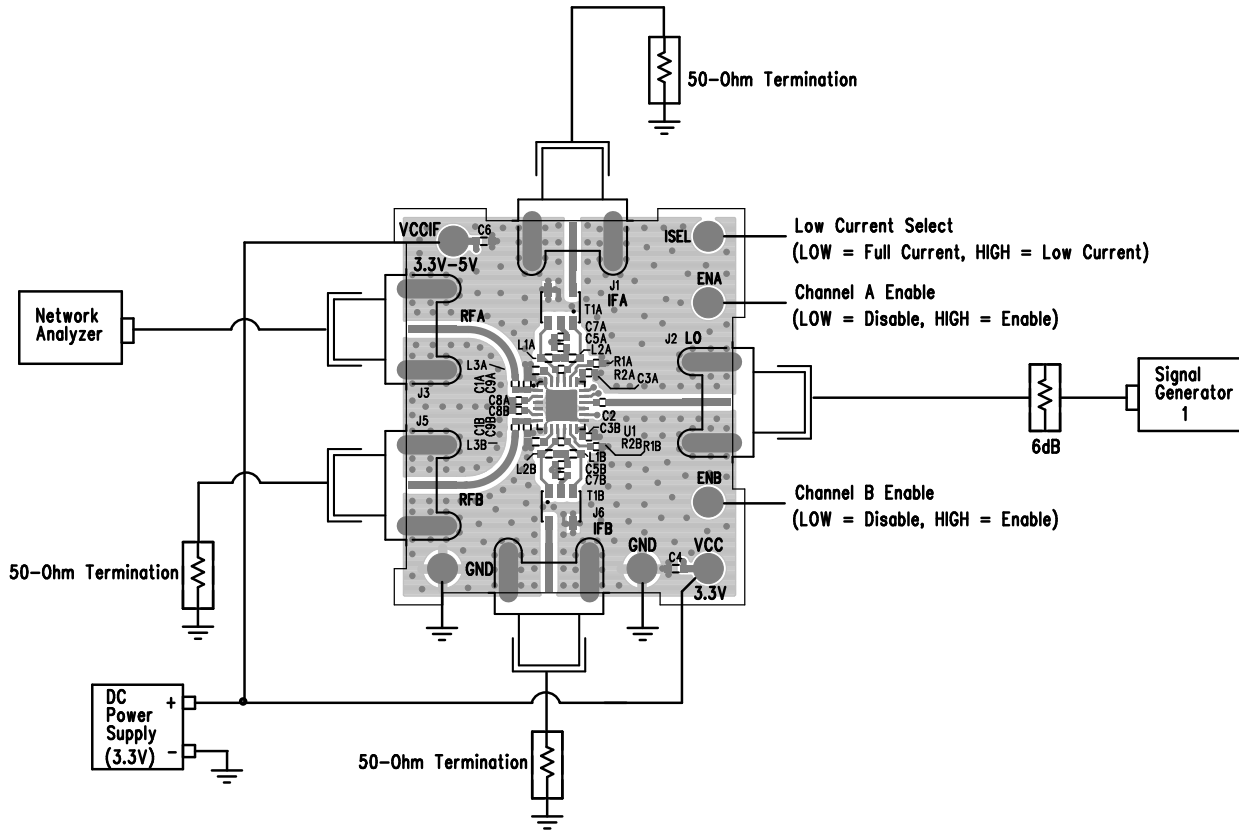
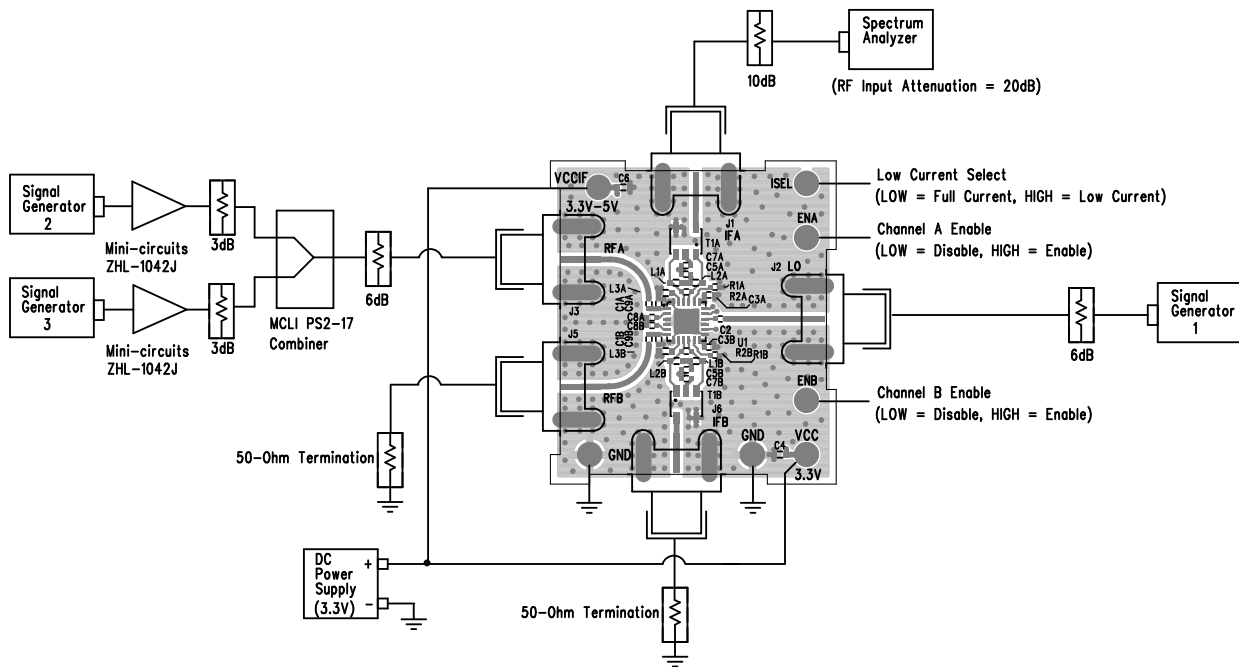
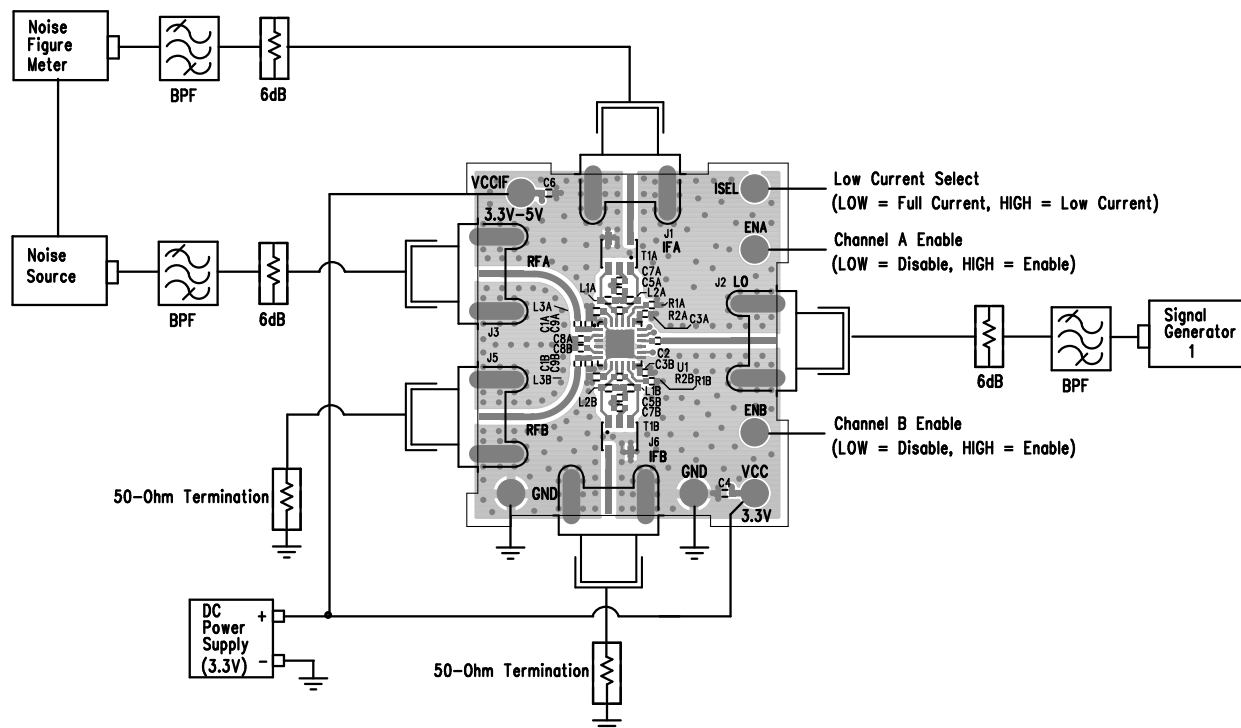

Figure 5. Proper Equipment Setup for Return Loss Measurements
Figure 6. Proper Equipment Setup for RF Performance Measurements
Figure 7. Proper Equipment Setup for Noise Figure Measurement
The LTC5592 is a dual high dynamic range downconverting mixer IC with very high input 3rd order intercept. Accuracy of its performance measurement is highly dependent on equipment setup and measurement technique. The recommended measurement setups are presented in Figure 5, Figure 6, and Figure 7. The following precautions should be observed:
The LTC5592 consists of high linearity passive double-balanced mixer cores and IF buffer amplifiers. Due to the bidirectional nature of all passive mixers the  $\text{LO}\pm\text{IF}$  mixing products, also referred to as pseudo-image spurs, are always present at the RF input, typically at a level  $12\text{dB}$  below the RF input signal. Mismatched impedances at the pseudo-image spur frequencies, such as when filters are used for SSB NF measurements, can significantly impact the linearity and noise figure measurements. To avoid interference from the pseudo-image spurs, terminate the RF input port with an isolator, diplexer, or attenuator. In the recommended measurement setups presented in Figure 6 and Figure 7, the  $6\text{dB}$  attenuator pad at the demonstration circuit's RF input serves this purpose.
Demonstration circuit 1710A-C is easy to set up to evaluate the performance of the LTC5592. Refer to Figure 5, Figure 6, and Figure 7 for proper equipment connections. The following procedures describe performing measurements on Mixer Channel A. The measurement procedures for Mixer Channel B are identical.
3. Connect all test equipment as shown in Figure 5 with the signal generator and the DC power supply turned off.
1. Connect all test equipment as shown in Figure 6 with the signal generators and the DC power supply turned off.
2. Connect all test equipment as shown in Figure 7 with the signal generator and the DC power supply turned off.